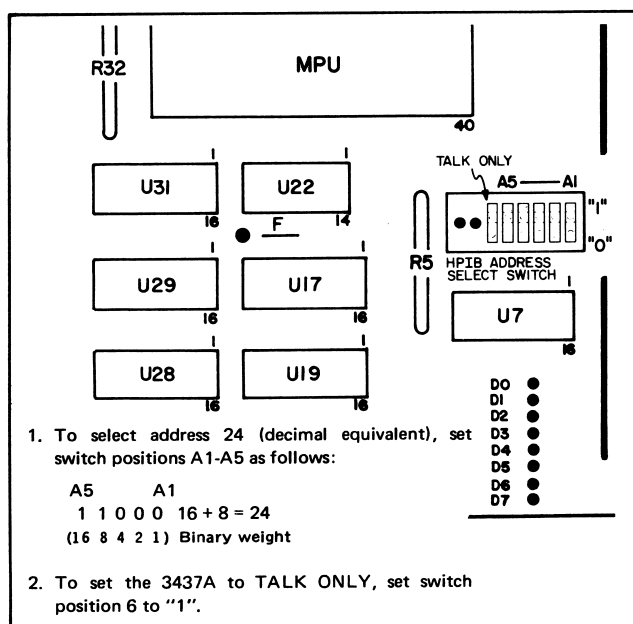

Figure 3-2. Address Select Switch and Address Code Designators.
**3-34. HP-IB Address Selection.** A seven-bit binary code forms the complete TALK or LISTEN address of the 3437A. The first five bits of the code (selected by A2S1) are referred to as the instrument address. The remaining two bits (DIO 6-7) are controller originated and define the address to be either TALK or LISTEN. The seven-bit code forms as ASCII character (Table 3-3) that uniquely defines the selected TALK or LISTEN address. Figure 3-2 illustrates the address select switch and address code designators.